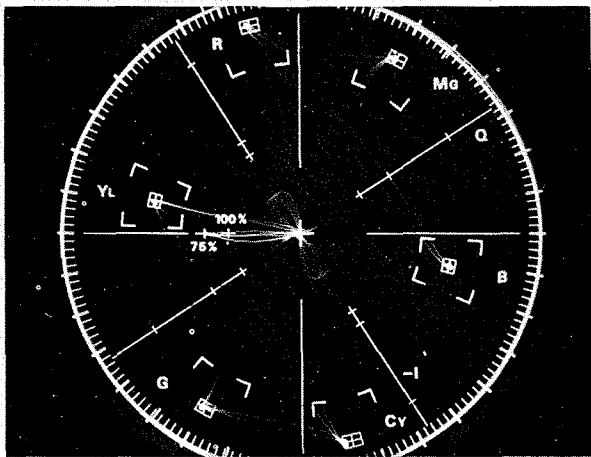
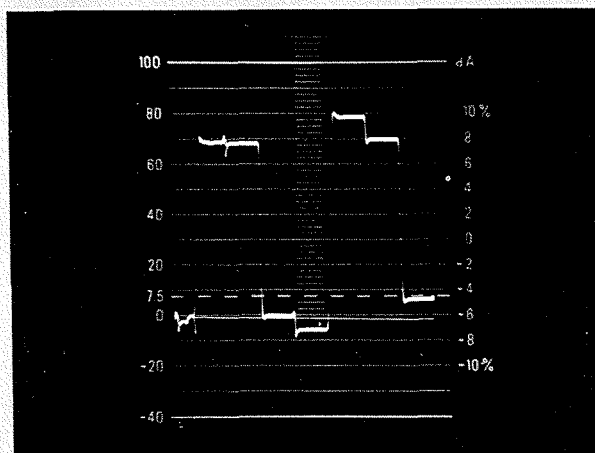

Fig 2—Vector display of 75% saturated color bar test signal
Fig 7—Red values of NTSC Color Bar Test Signal with magenta and red bars oversaturated
Fig 2 shows the typical vector display of a 75% saturated color bar test signal. Note the sharply defined spots which permit increased phase-angle resolution, particularly useful for detecting phase jitter or very small phase errors.
In Fig 7 the red (R) "image" is displayed on the vectorscope using the "standard" decoded color bar signal. The colors are arranged from the left of the display to the right in order of descending luminance—grey, yellow, cyan, green, magenta, red, and blue. Note that the magenta and red bars are over-saturated, however, the error is not easily detected by the eye on the picture monitor because the error is not too large. Observing the vector display of the same signal in Fig 2 indicates that the chrominance portions of the encoded color bars are correct. Therefore the luminance levels for magenta and red must be incorrect—too high in this case. In this illustration, since only two color bars are affected, the error is not due to non-linear luminance gain but simply because the luminance pedestal levels of the color bar generator are incorrectly adjusted.